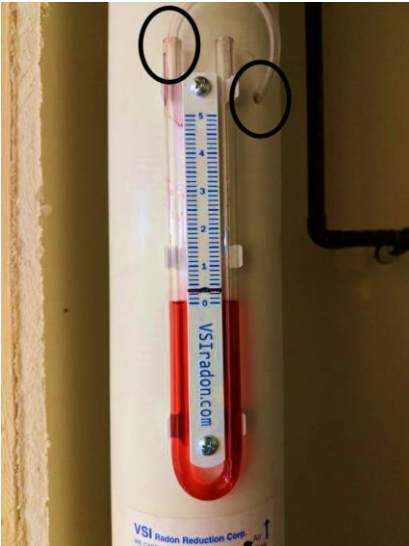

Figure 3.7: Simple U-tube manometer
- Simple U-tube manometer (Figure 3.7)